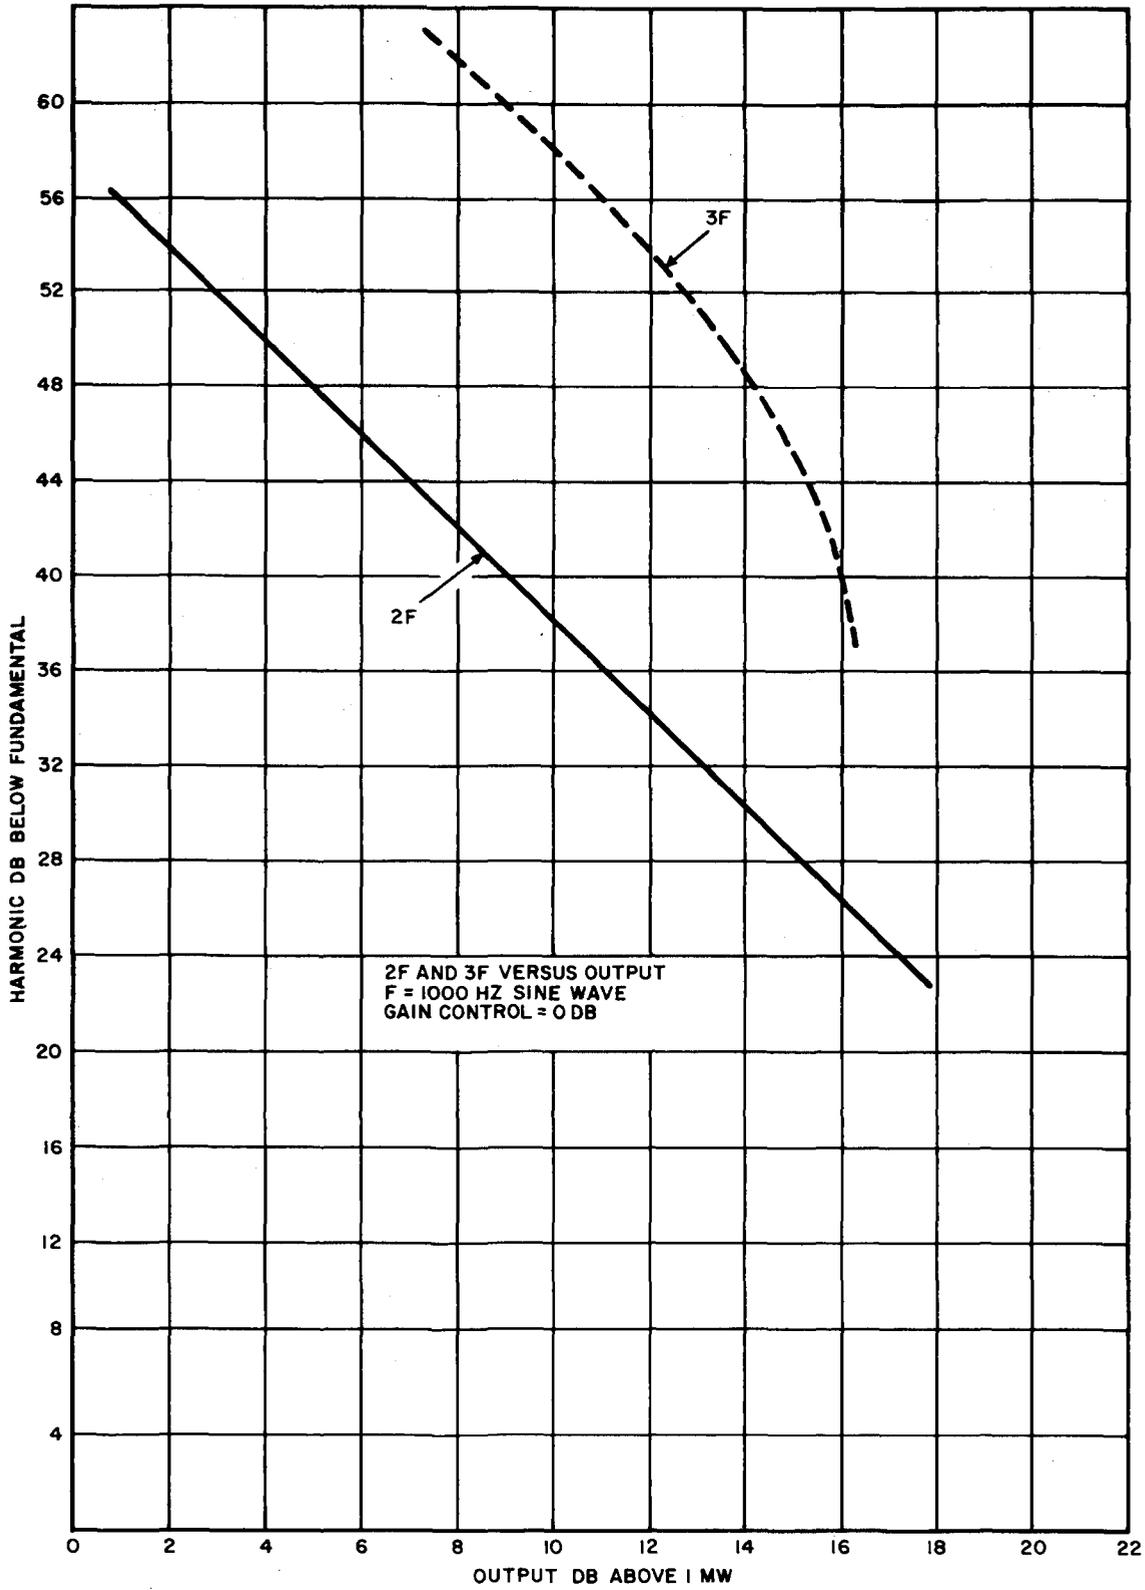

Fig. 6—Harmonic Content of KS-20378 Amplifier
**4.03** The second- and third-order harmonic distortion versus the output power of the fundamental is shown in Fig. 6. The curves are for the amplifier